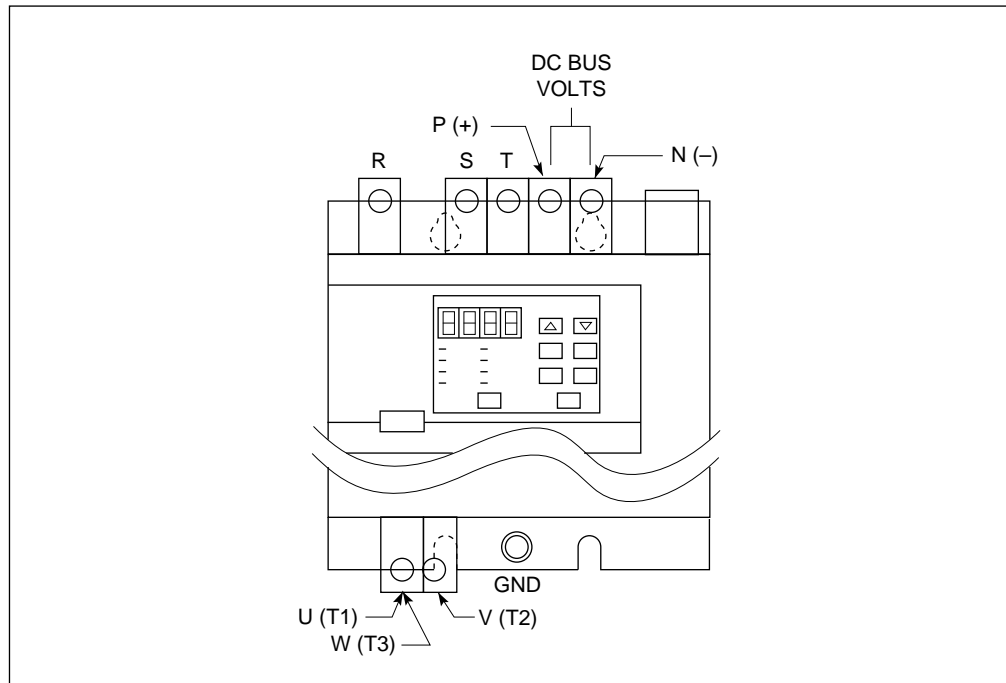

Figure 9.1 – DC Bus Voltage Terminals
- Step 4. Measure the DC bus potential with a voltmeter at the DC bus power terminals while standing on a non-conductive surface and wearing insulated gloves (600 V). See figure 9.1.